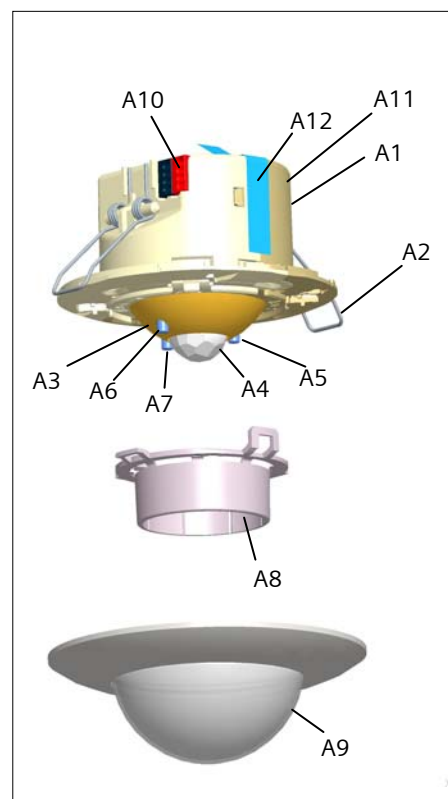

Figure 2: Display and operating elements
- Be aware of orientation of presence detector, visible at position of programming button (fig. 2 - A7)